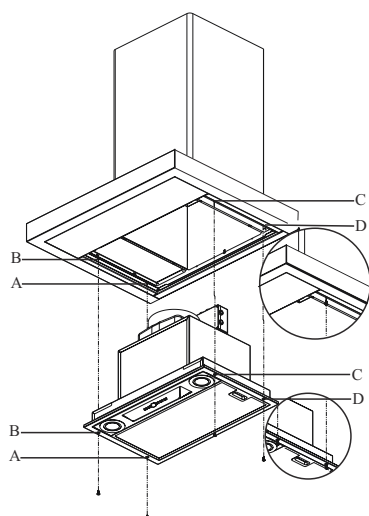

Fig. 14
4. ➡ Install the appliance inside the hood at points A, B, C, D (Fig. 14).